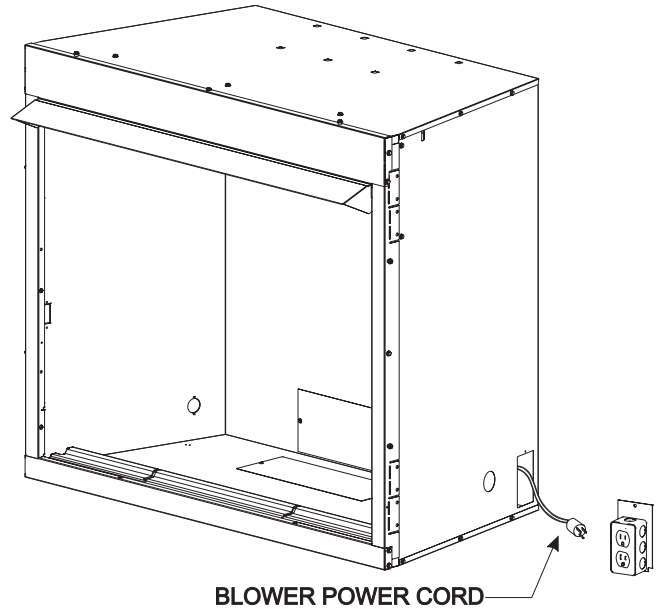

Figure 7
11. To complete the installation, plug the power cord into the junction box receptacle at the right rear corner of the firebox outer wrap. **See Figure 7.**